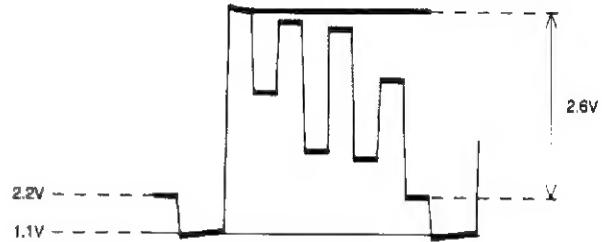

Fig. 2
- Set the brightness control so that the level of the black bar in the video signal is situated at 2,2V (see Fig. 2).